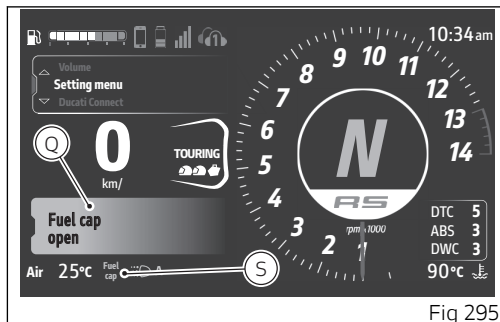
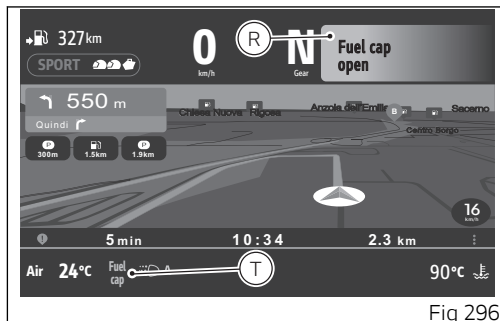

Fig 295
Fig 296
- when activated, it is displayed for the first 5 seconds in the large format (Q main screen, Fig 295) (R Ducati Connect screen Fig 296);
- then it is displayed in the small format (S main screen, Fig 295) (T Ducati Connect screen Fig 296).